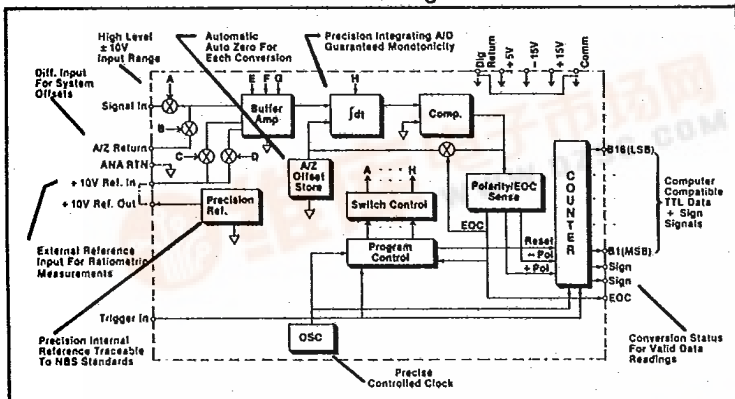

Figure 1. MP8037 Block Diagram.
The innovative quadraphasic design of the MP8037 completes a conversion in 4 phases, the operation of which may be best understood with reference to Figures 1 and 2. The four phases are: the autozeroing phase (AZ), the signal integration phase ($\int x$), integration of ref high ($\int \text{ref hi}$), and integration of ref low ($\int \text{ref lo}$). Timing signals for each of the phases is developed in pro-